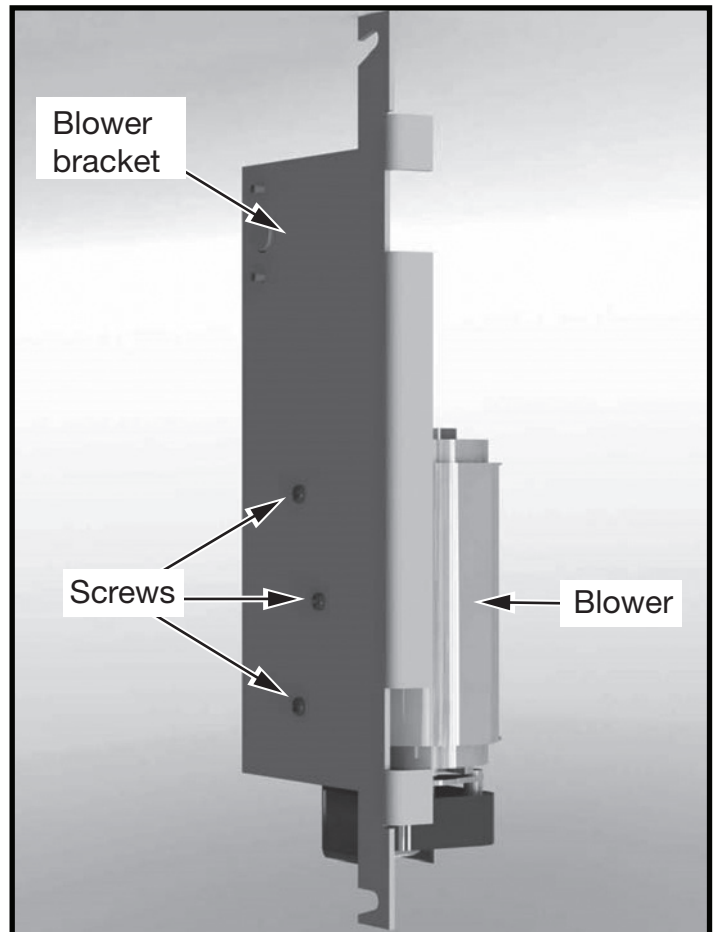

Figure 7: Blower and mounting bracket.
6. Remove the three screws securing the blower to the mounting bracket and replace the blower (Figure 7).